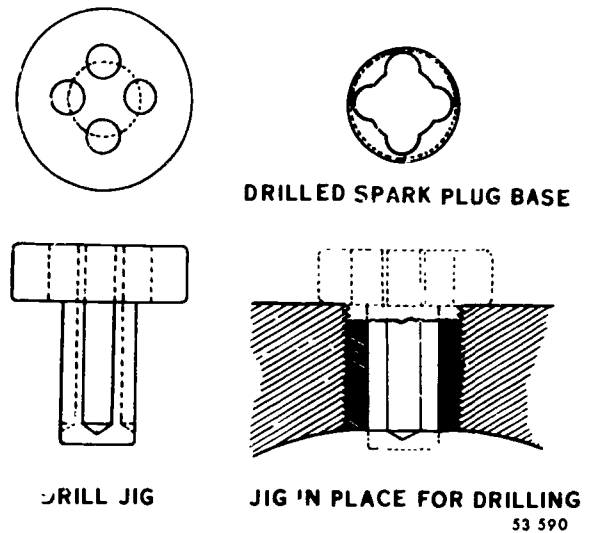

Figure 6-13. Spark plug drill jig.
*Use of drill jig.* Figure 6-13 shows a typical drill jig for drilling the base or threaded portion of a broken spark plug. The four holes in the face of the jig guide a drill into the wall of the plug base. After the drilling is completed, you can remove the jig and tap the sections between the holes inward toward the center with a chisel to loosen the thread from the mating part. Sometimes, drilling the plug loosens it enough so that you can unscrew it by using an extractor of the proper size. When you are working on a broken spark plug, you should prevent pieces of the plug from